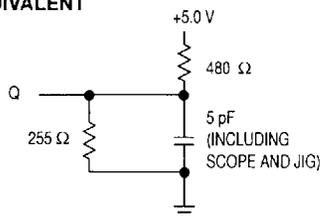

Figure 1B.
- Transition is measured ± 500 mV from steady-state voltage with load of Figure 1B.
6. Transition is measured  $\pm 500$  mV from steady-state voltage with load of Figure 1B.